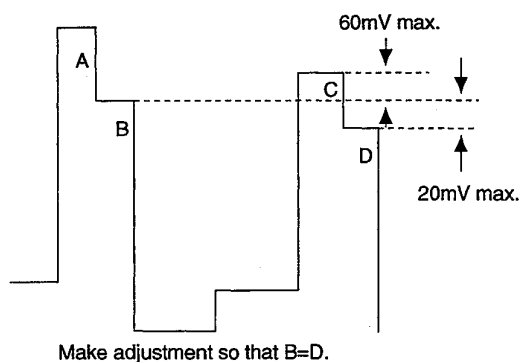

Fig. 5-20
- 2) Connect the probe of an oscilloscope to IC404 ④1PIN or TP401.
- 4) Adjust **R-Y LEVEL PAL** so that the peaks of waveforms will be flush with each other as shown Fig.5-20.